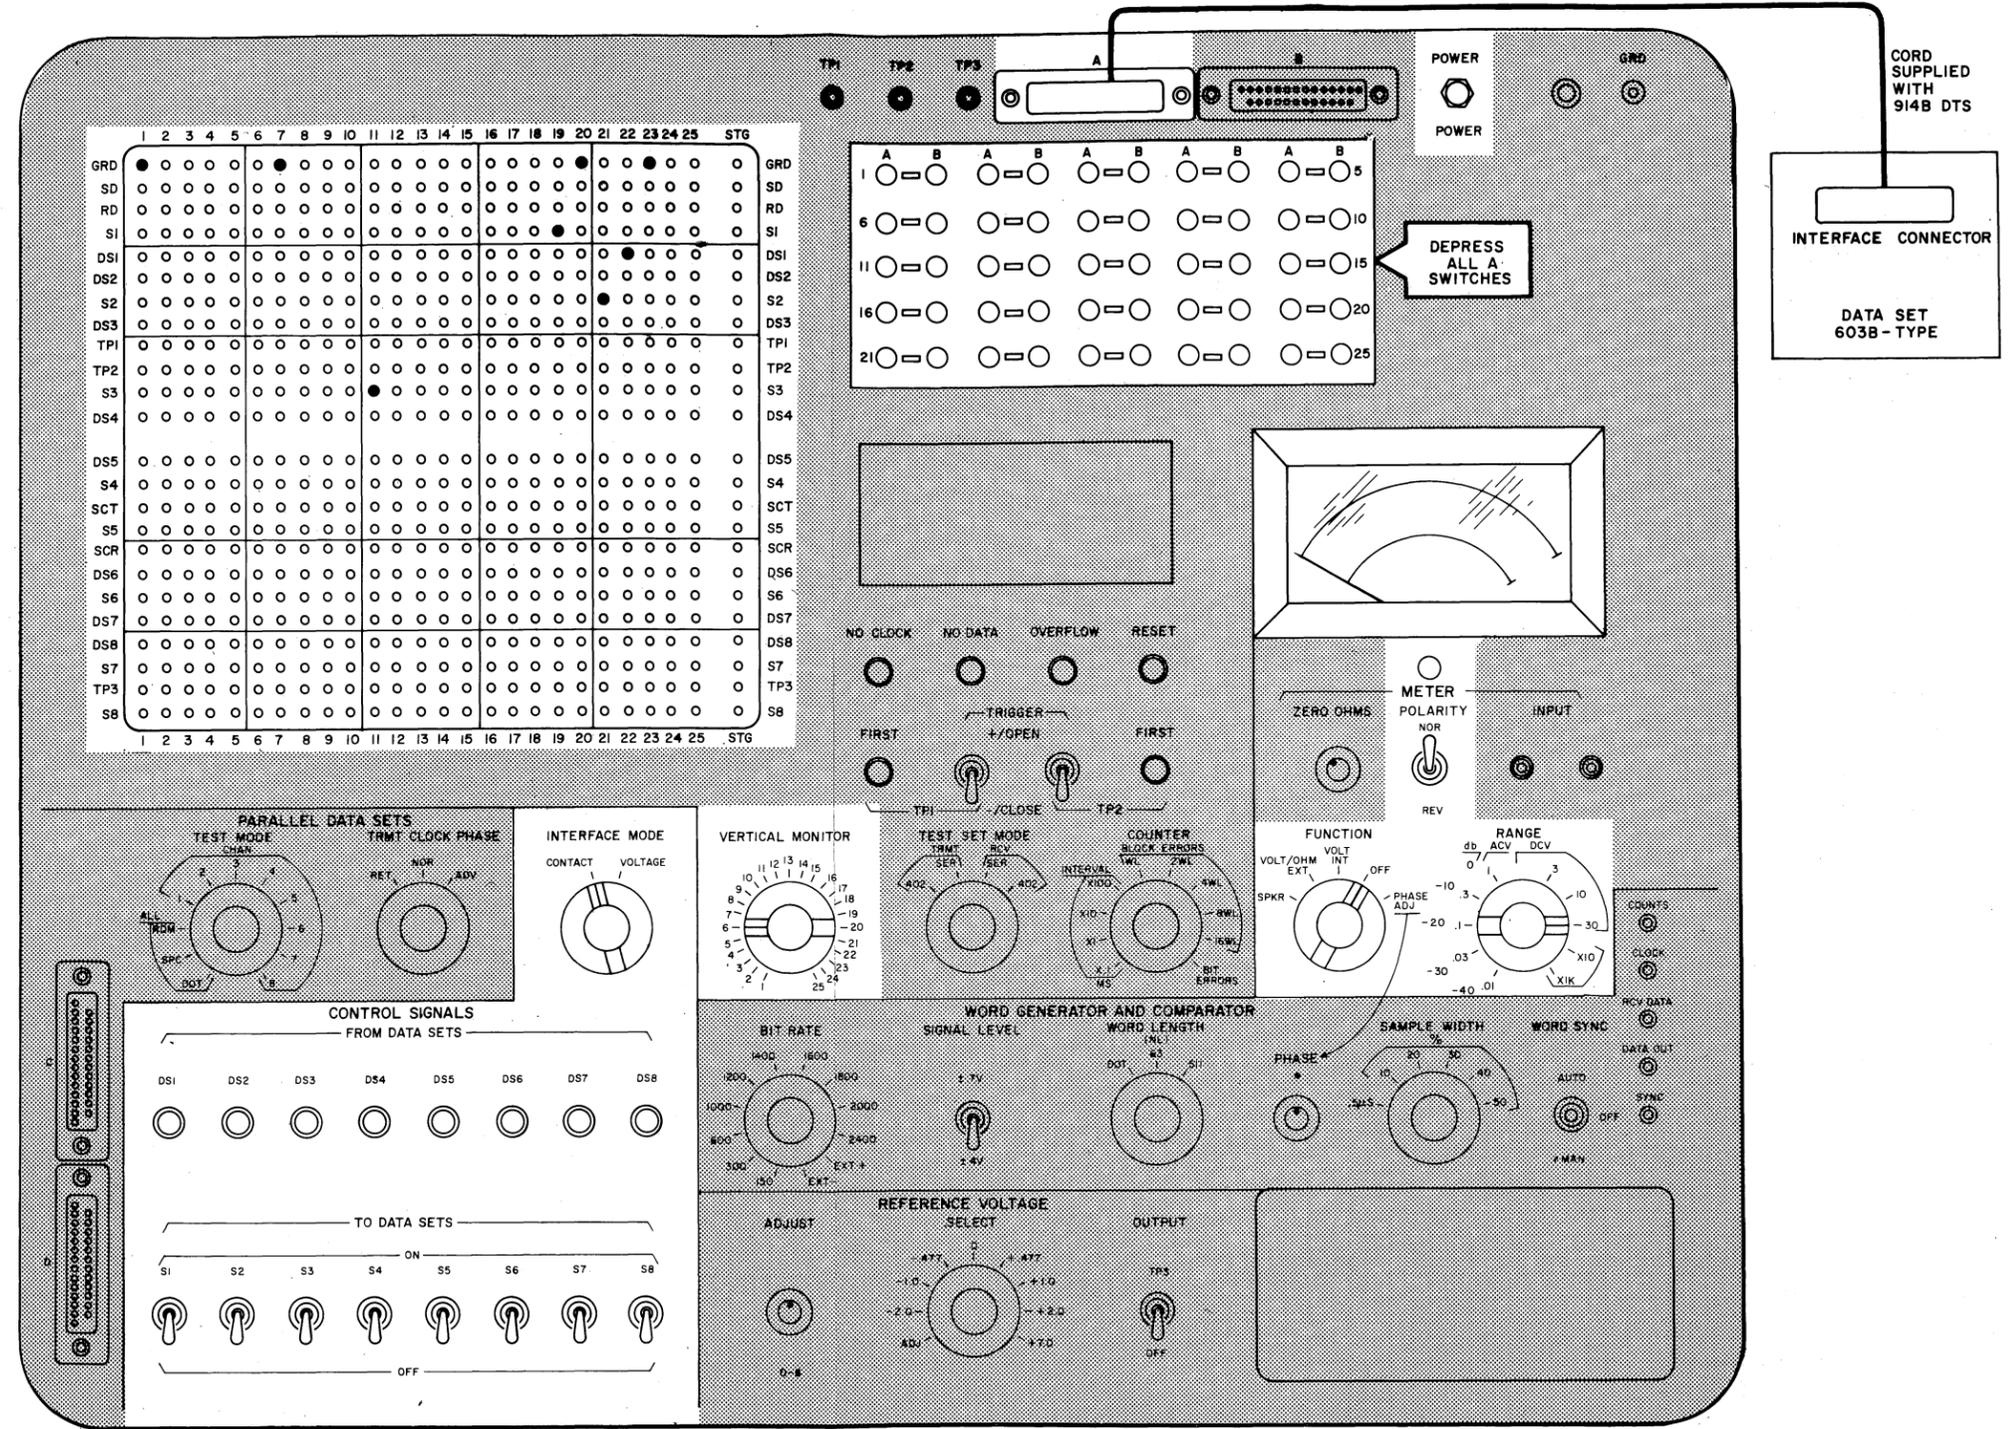

Fig. 4—Test Connection Diagram
3.06 Figure 4 is a test connection diagram showing the equipment set up to perform an interface test of Data Set 603B-type.